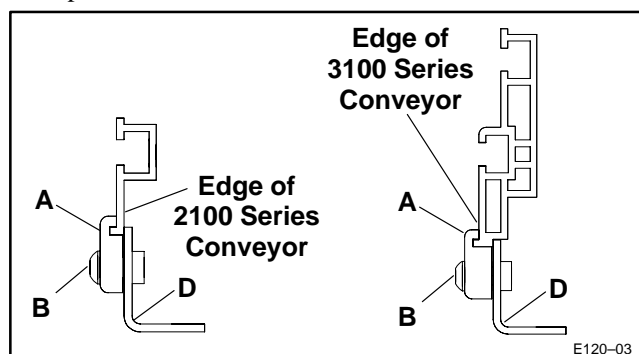

Figure 3: 2100 Series Conveyor Trough Mounting Bracket and Mounting Clip Attachment Detail
4. Once the Trough Mounting Brackets have been secured to the Wire Ways, the Bracket and Wire Way assemblies should be secured to the bottom edge of the Conveyor using the appropriate 2100 Series or 3100 Series Mounting Clip (A) and an M8 x 18 mm Button Head Screw (B), for each Clip (Figure 3). Tighten each Screw with the 5 mm Hex Key Wrench provided.